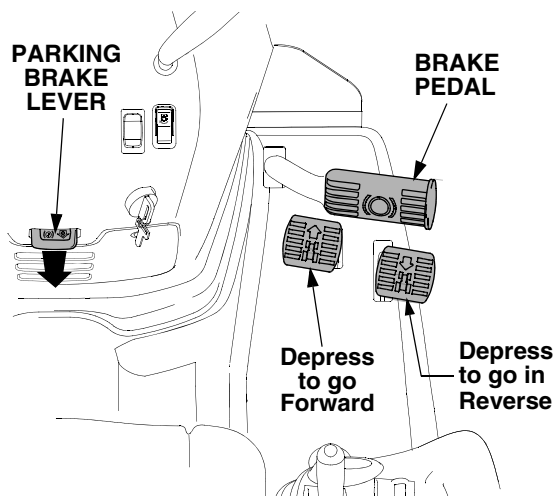

Figure 15
- Fully depress the brake pedal to bring the tractor to a complete stop. Push downward on the parking brake lever and release the pedal to engage the parking brake. Refer to Figure 15.
- To move forward, slowly depress the forward control pedal (See Figure 15) until the desired speed is achieved. The speed of the tractor is directly related to the distance the pedal is depressed.
- To move in reverse, check that the area behind is clear then slowly depress the reverse control pedal. See Figure 15.